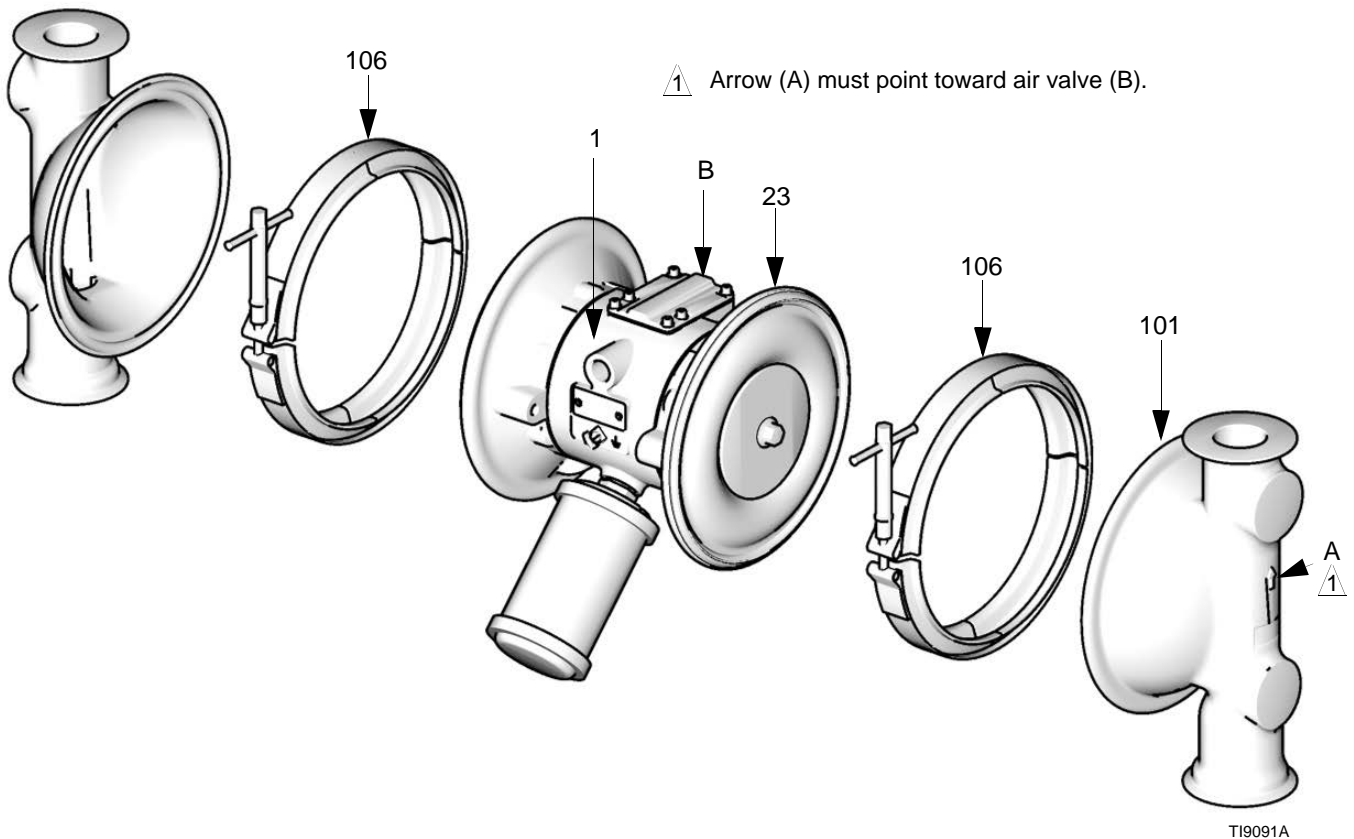
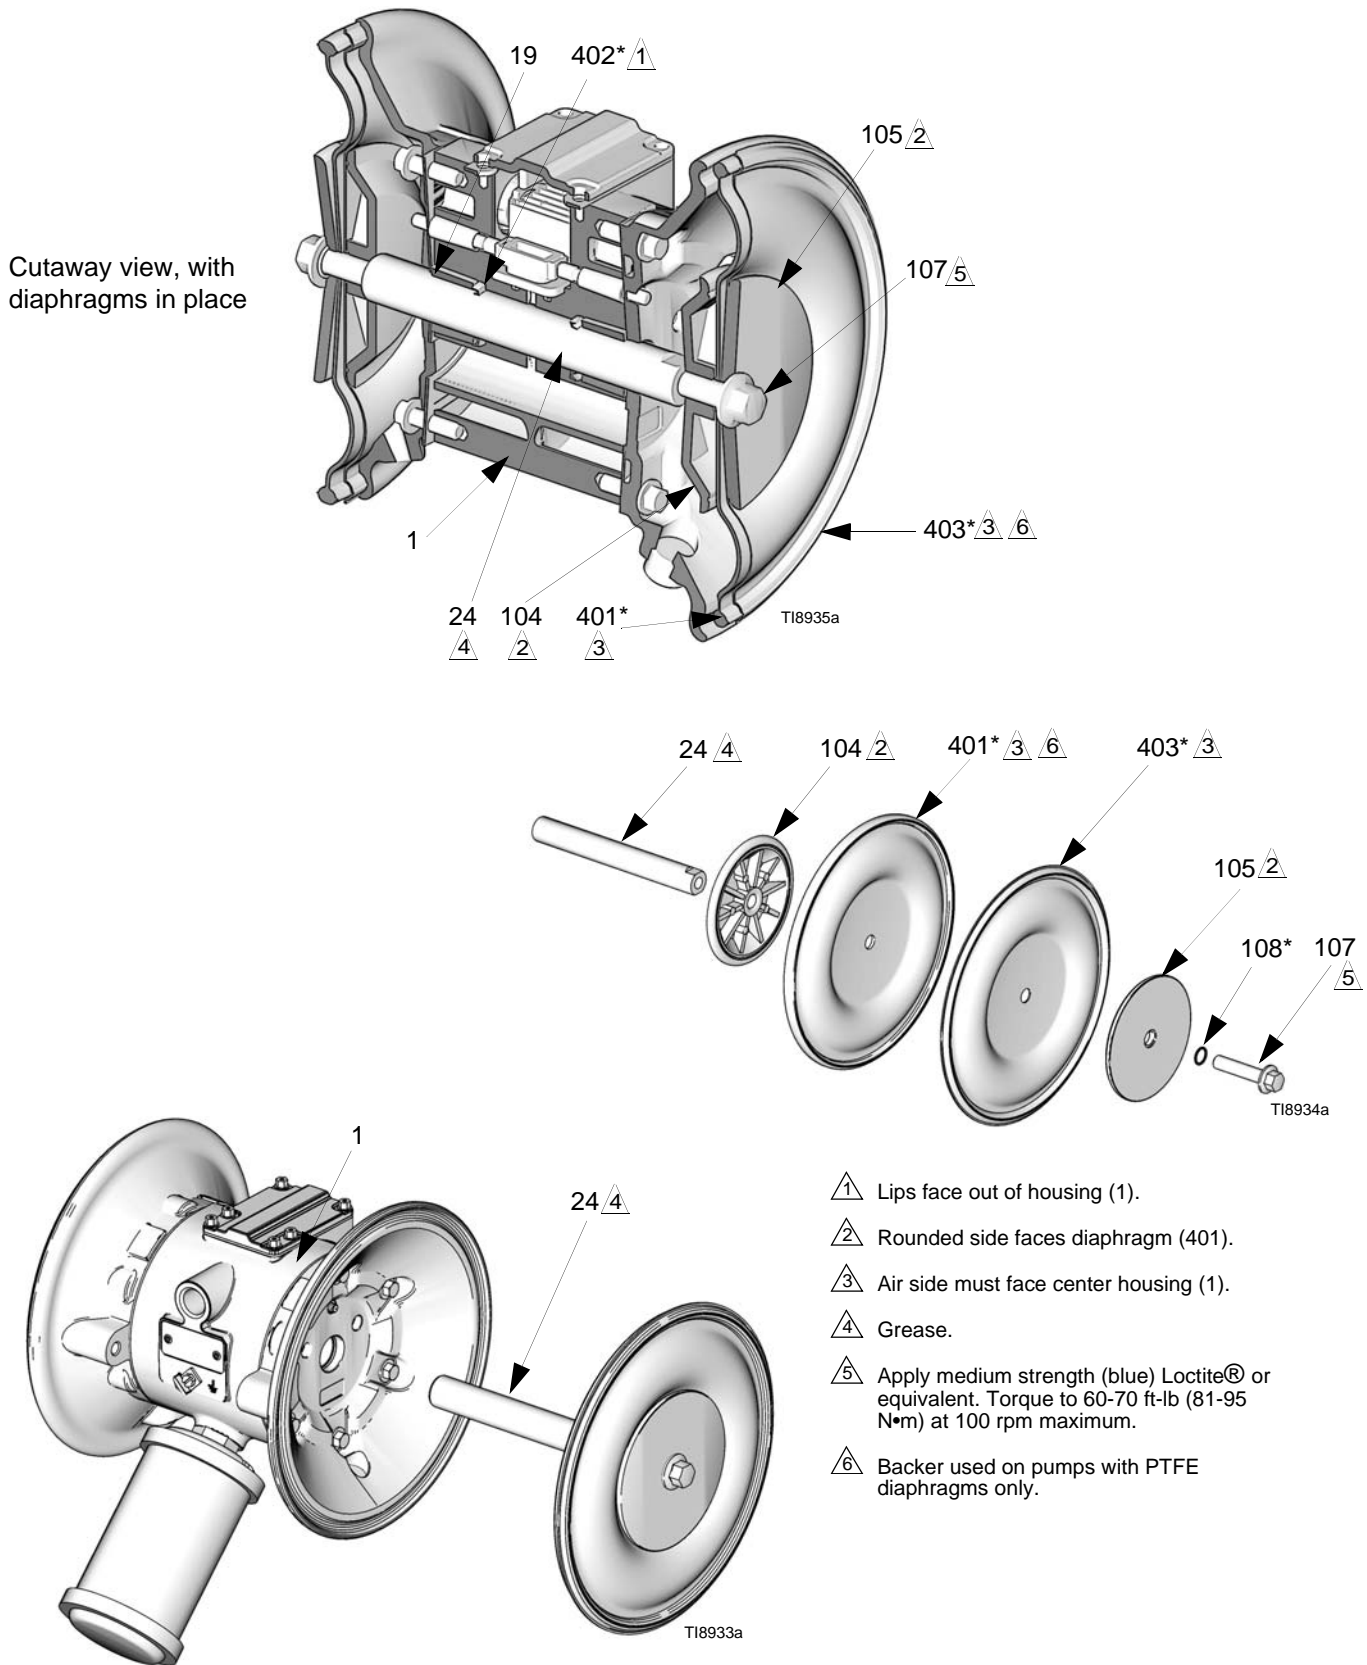

FIG. 10
FIG. 11
3. Remove the clamps (106) holding the fluid covers (101) to the air covers (23). Pull the fluid covers (101) off the pump. See FIG. 10.
4. Loosen but do not remove the diaphragm shaft bolts (107), using a 15 mm socket wrench on both bolts. See FIG. 11.
5. Unscrew one bolt from the diaphragm shaft (24) and remove the o-ring (108), fluid side diaphragm plate (105), diaphragm (403), backer (401) used only on PTFE models, and air side diaphragm plate (104). See FIG. 11.
6. Pull the other diaphragm assembly and the diaphragm shaft (24) out of the center housing (1). Hold the shaft flats with a 19 mm open end wrench, and remove the bolt (107) from the shaft. Disassemble the remaining diaphragm assembly.
7. Inspect the diaphragm shaft (24) for wear or scratches. If it is damaged, inspect the bearings (19) in place. If the bearings are damaged, refer to page 23.
8. Reach into the center housing (1) with an o-ring pick and hook the u-cup packings (402), then pull them out of the housing. This can be done with the bearings (19) in place.
- e. Install the air side diaphragm plate (104) so the rounded side faces the diaphragm (401). This plate is stamped with its part number.
- f. Apply medium-strength (blue) Loctite® or equivalent to the bolt (107) threads. Screw the bolt into the shaft (24) hand tight.
3. Grease the length and ends of the diaphragm shaft (24), and slide it through the housing (1).
5. Hold one shaft bolt (107) with a wrench and torque the other bolt to 60-70 ft-lb (81-95 N•m) at 100 rpm maximum.
6. Align the fluid covers (101) and the center housing (1) so the arrows (A) on the covers face the same direction as the air valve (B). Secure covers with the clamps. See FIG. 10.
1. Install the shaft u-cup packings (402*) so the lips face **out** of the housing (1). Lubricate the packings. See FIG. 11.
2. Install the diaphragm assembly on one end of the shaft (24) as follows:
- a. Install the o-ring (108*) on the shaft bolt (107).
- b. Install the fluid side diaphragm plate (105) on the bolt so the rounded side faces the diaphragm (401).
6. Remove the air cover gaskets (22). Always replace the gaskets with new ones.
7. Use a bearing puller to remove the diaphragm shaft bearings (19), air valve bearings (12) or pilot pin bearings (15). Do not remove undamaged bearings.
8. If you removed the diaphragm shaft bearings (19) reach into the center housing (1) with an o-ring pick and hook the u-cup packings (402), then pull them out of the housing. Inspect the packings. See FIG. 11.
1. If removed, install the shaft u-cup packings (402*) so the lips face **out** of the housing (1). See FIG. 11.
2. The bearings (12, 15, and 19) are tapered and can only be installed one way. Insert the bearings into the center housing (1), **tapered end first**. Using a press or a block and rubber mallet, press-fit the